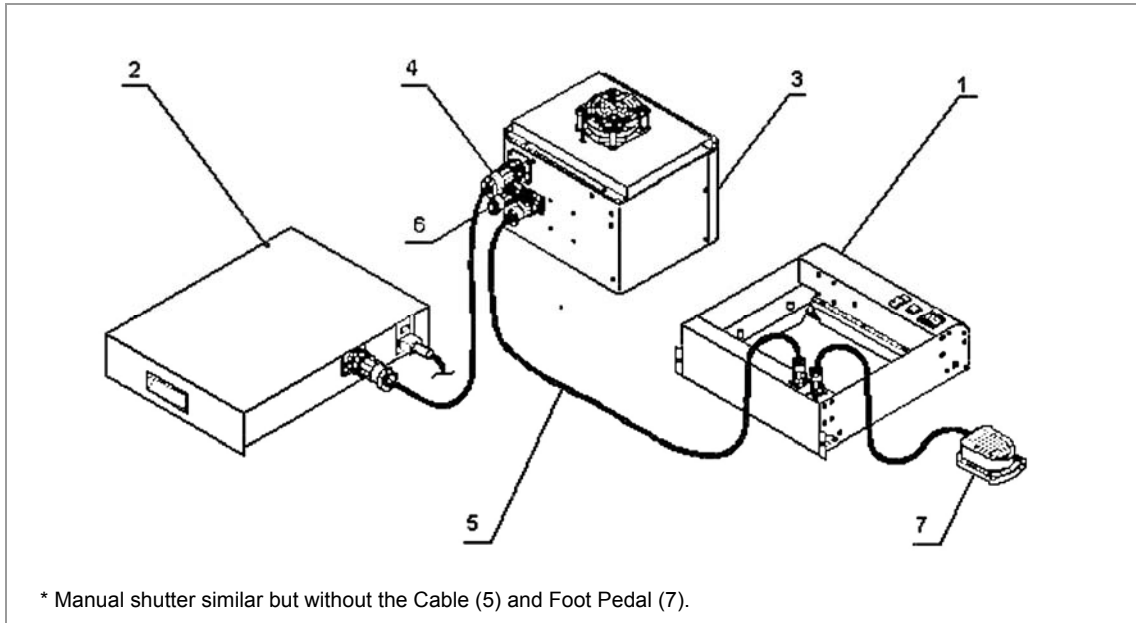

Figure 17. ZIP™ Shutter Electrical Interconnect Diagram*
The power (24 V) to the ZIP™ Shutter comes directly from the Lamp Power Supply (see Figure 17) through the receptacle (4) on top of Rear Panel.